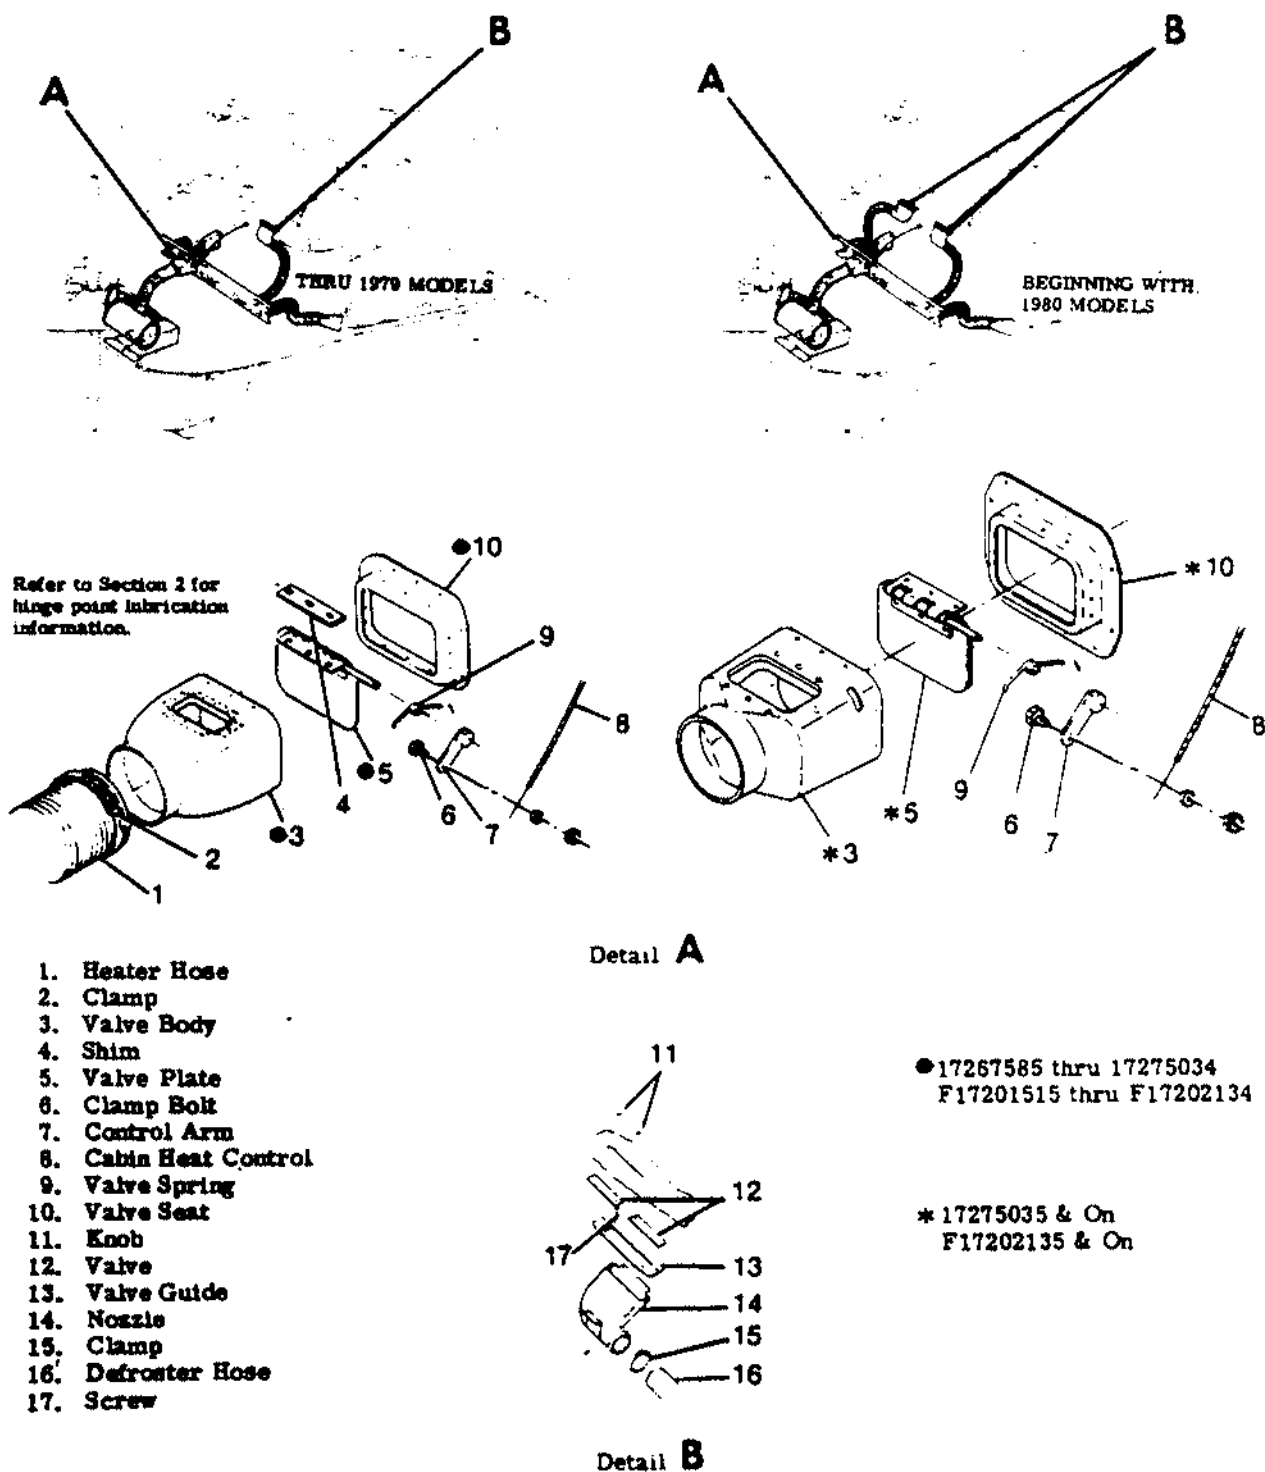

Figure 14-1. Heating and Defrosting Systems
14-2. HEATING SYSTEM. (See figure 14-1.)
14-6. REMOVAL, REPAIR AND INSTALLATION. The heating and defrosting systems are illustrated in figure 14-1. The figure may be used as a guide for removal, repair or
- 14-7 DEFROSTER SYSTEM. (See figure 14-1.)
- 14-11. REMOVAL, REPAIR AND INSTALLATION. The defroster system is illustrated in figure 14-1 in conjunction with the heating system. The figure may be used as a guide for removal, repair or installation of system components. Burned, frayed or crushed hose must be replaced with new hose, cut to correct length and installed in the original routing. Trim hose windings shorter than complete hose length to allow clamps to be installed. A defective defroster outlet should be repaired or replaced. Check for correct operation of control after repair and/or installation.